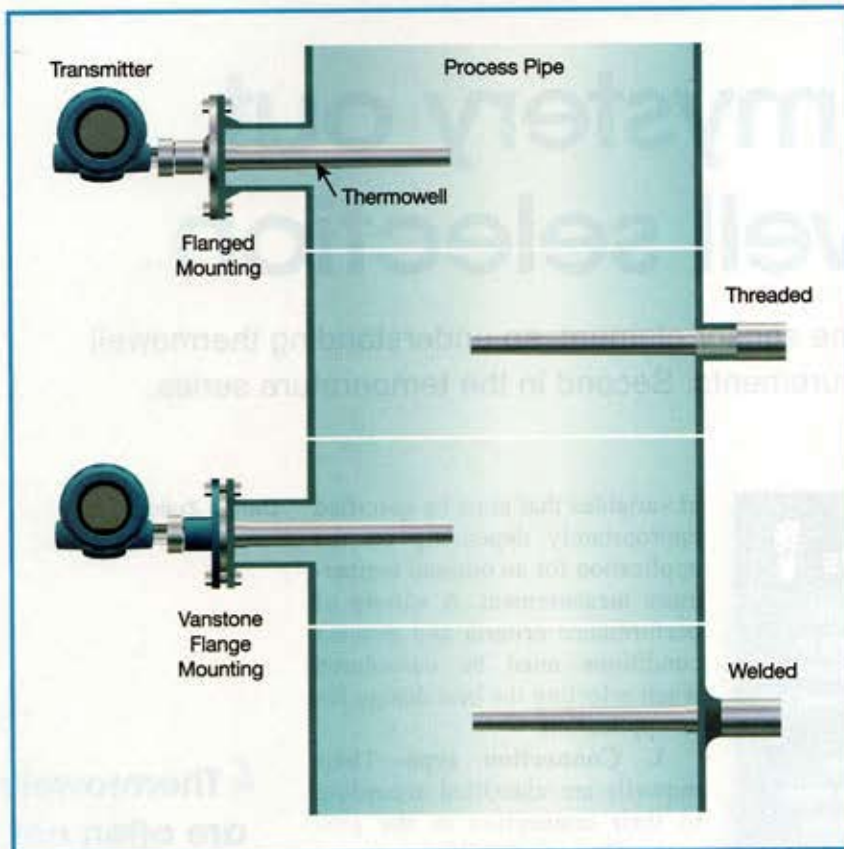

Figure 1: Selecting a mounting option involves specific process conditions and maintainability. All graphics courtesy: Emerson Process Management
1. Connection type—Thermowells are classified according to their connection to the process. The most common types are threaded, socket weld, and flanged. Each of these has a stem or shank that extends into the process that may be straight with constant diameter, tapered all the way from entry point to the tip, partially tapered, or stepped (see Figure 1).